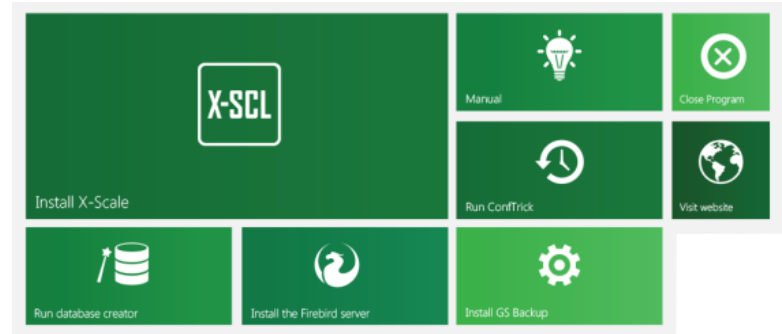

Fig. 1 Installation panel of X-Scale
2. After booting, the disc should open the installation panel on startup, as seen on Fig. 1